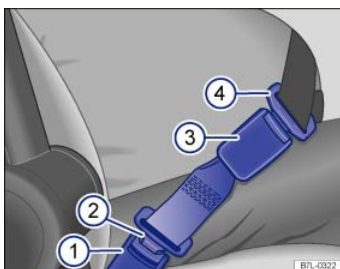

Fig. 66 A safety belt extender properly attached to the factory-installed safety belt.
Key to⇒ Fig. 66 :
- Insert the buckle tongue on the safety belt extender ⇒ Fig. 66② into the vehicle belt buckle for the seat where the safety belt extender is being used ⇒ Fig. 66①.